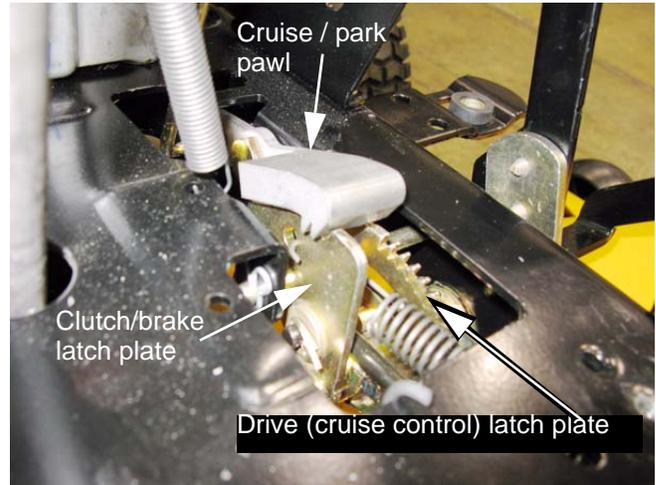

Figure 5.20
- The cruise control/park brake lever operates a common pawl that engages the latch plate of whichever pedal is applied. See Figure 5.20.